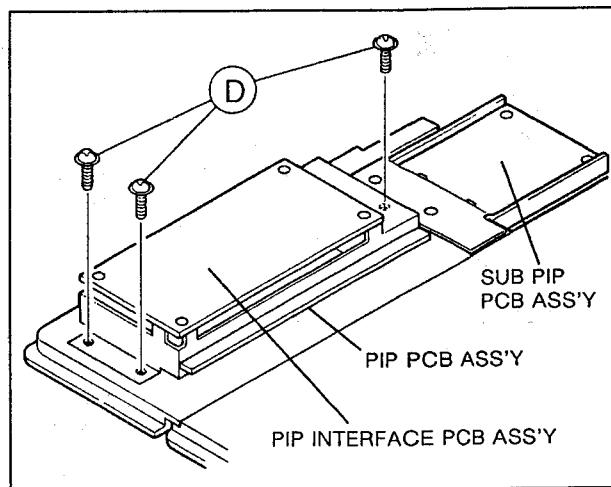

Fig. 5
1. Pull out the main chassis. Take out 3 screws ⑩ indicated in Fig. 5, pull the unit outward and raise it to remove.